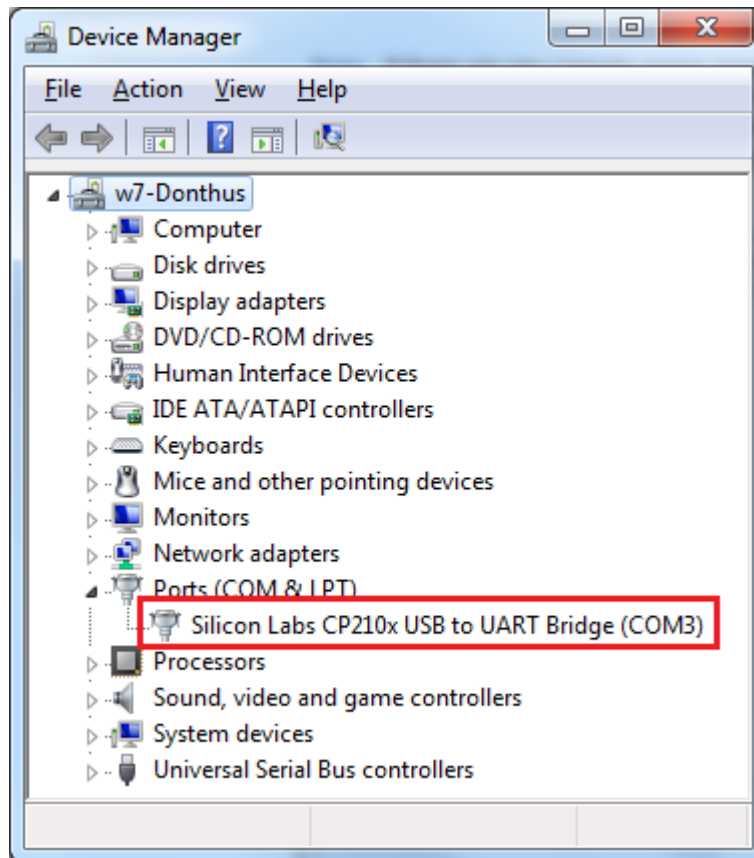

Figure 34 · Device Manager Listing Silicon Labs CP210x USB to UART Bridge Drivers
2. If the Silicon Labs CP210x USB to UART Bridge drivers are automatically detected (this can be verified in Device Manager), as shown in Figure 34 · , proceed to the next step; otherwise follow the